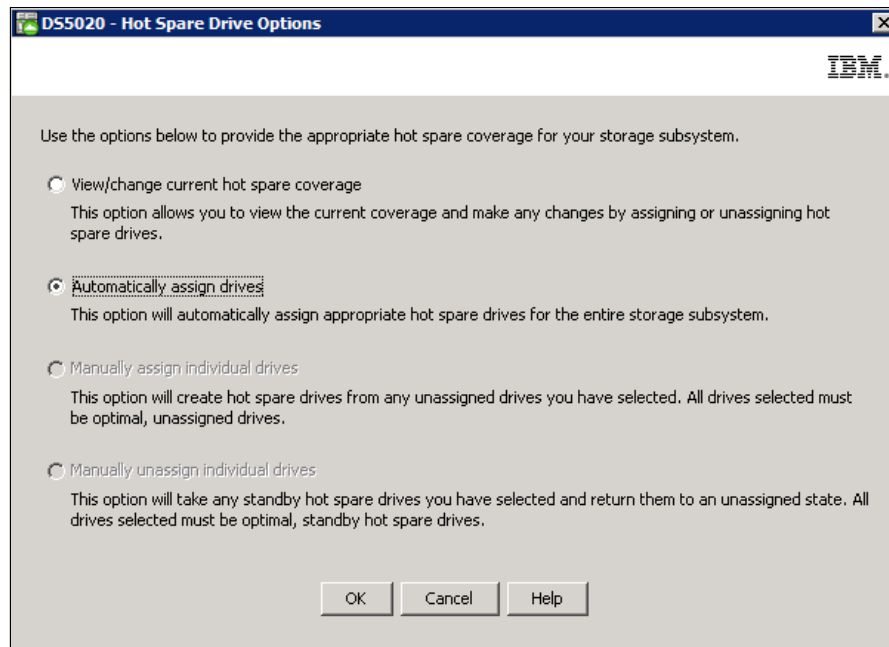
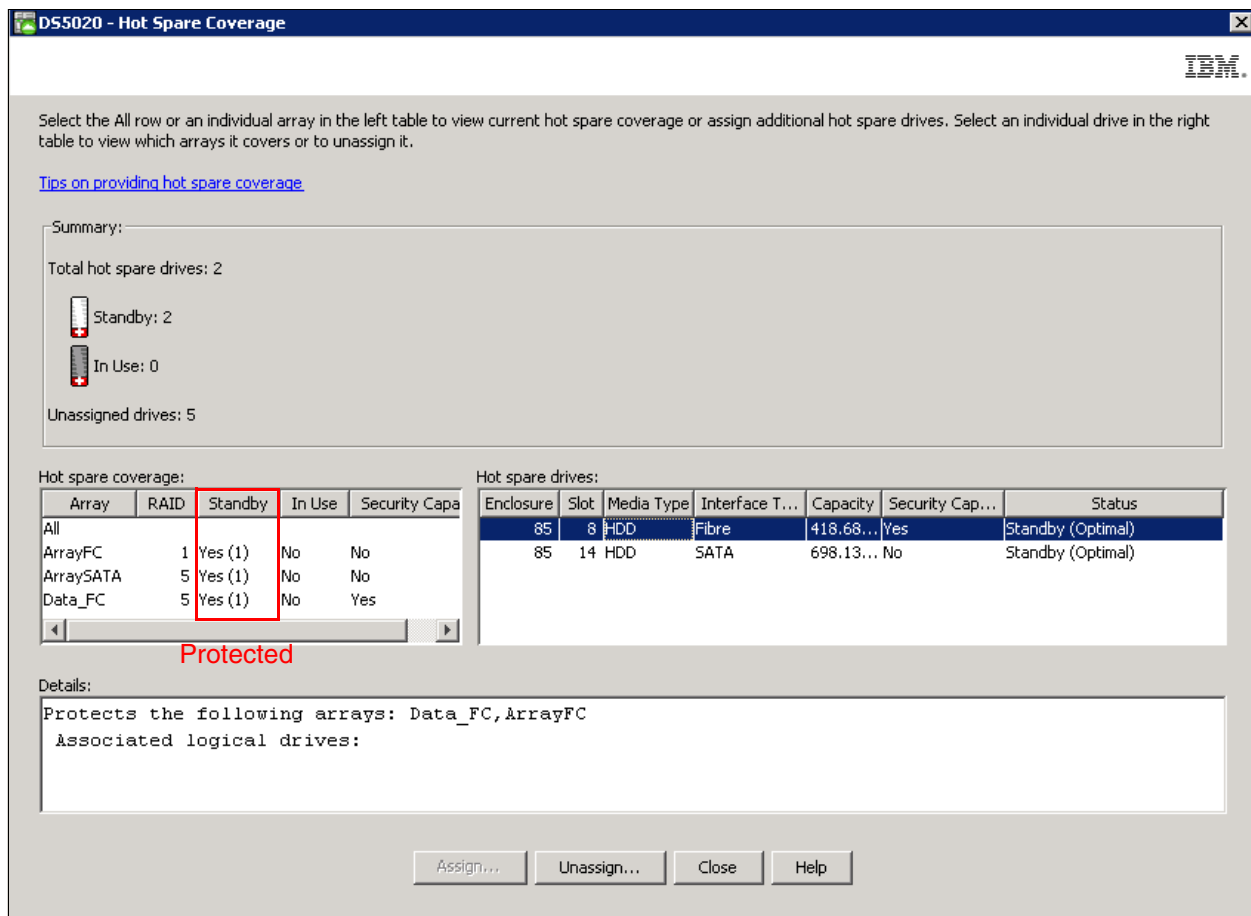

Figure 3-49 Hot Spare Drive Options
Figure 3-54 View/Change hot spare coverage
Select **Configure hot spare drives**. The window shown in Figure 3-49 opens.
1. To automatically create the hot spare coverage using the drives that are available, select **Automatically assign drives**, as shown in Figure 3-49 and click **OK**. The recommended quantity of spares drives needed for your configuration are created automatically.
2. This opens the Hot Spare Drive Options window, as shown in Figure 3-49, but this time with the option **Manually assign individual drives** selected by default. Click **OK** and the unassigned drive is defined as a hot spare.
- The Hot Spare Drive Options window opens, as shown earlier in Figure 3-49. Select **View/Change current hot spare coverage** and click **OK**. This opens the window shown in Figure 3-54.